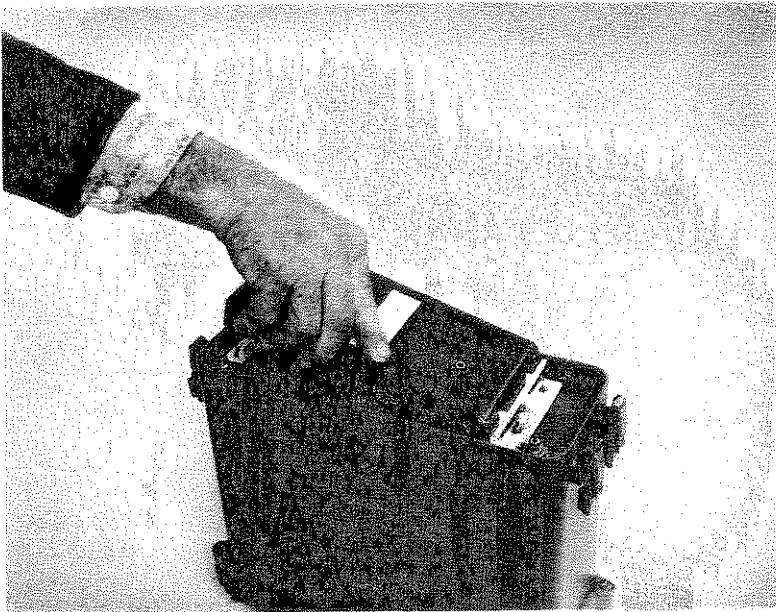

FIG 30
- d. Insert a battery into the compartment; pressing the battery terminals against the spring contacts and lowering the other end. (Refer Fig 30).